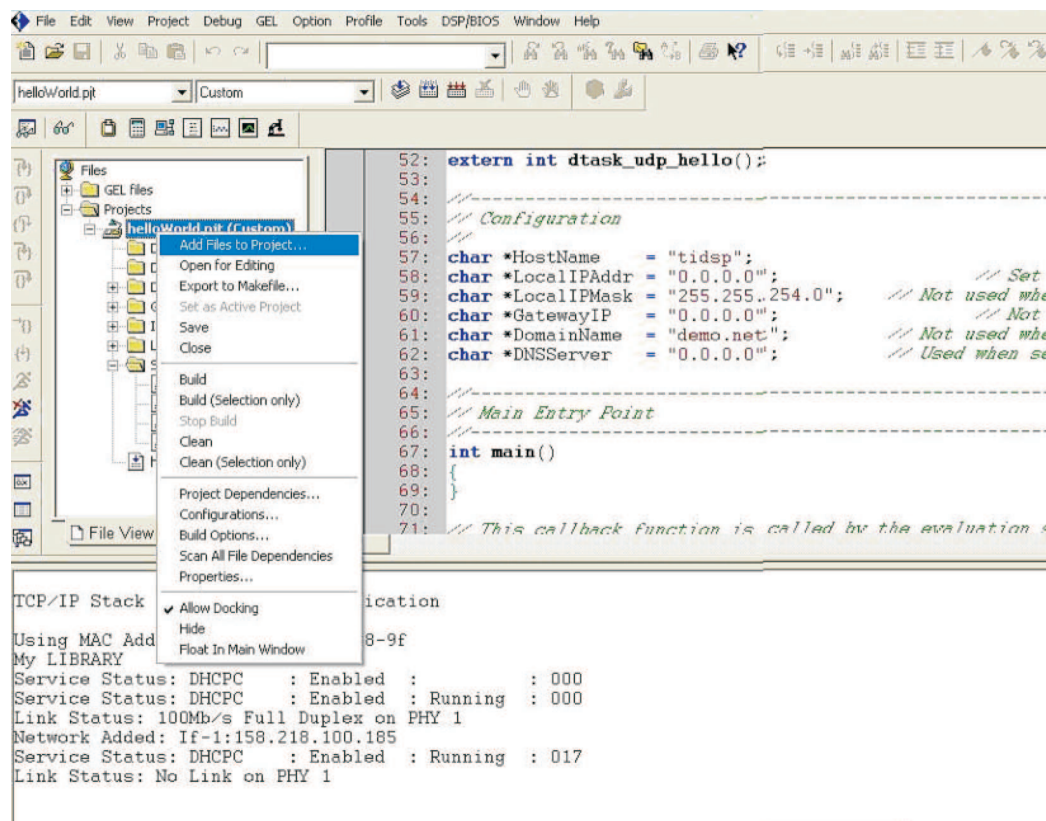

Figure 9. Source File Addition to Existing Project
1. Right click on the project file in the Project window, as shown in Figure 9, and select *Add Files to Project* to add any HAL library sources to Code Composer Studio project. This opens up a browse window; you can browse to the required HAL sources directory and select the appropriate source code files to add them.